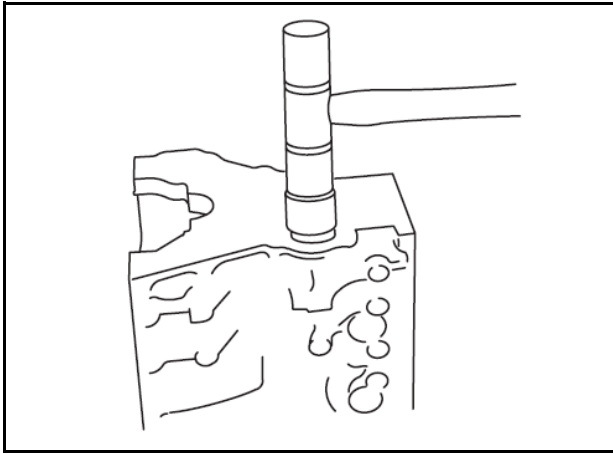

Fig.7-Installing Cam Bearing
2. Install camshaft bearing, Fig. 7.